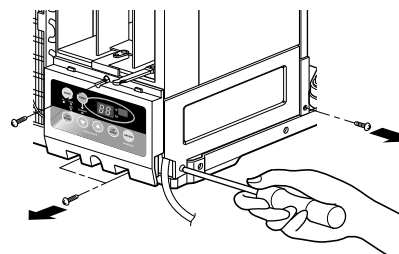

Figure 3
2. Install the drain pan over the corner of the cabinet where you removed the plug with 4 (or 2) screws.(See Fig.3)
3. Connect the drain hose to the outlet located at the bottom of the drain pan. You can purchase the drain hose or tubing locally to satisfy your particular needs. (Drain hose is not supplied). (See Fig.3)
4. Select the most appropriate connection from among the figures to the right (by considering the hole of the unit) to fit drain pan to your own unit. (See Fig.3)
2. Pull the base pan forward so that you can remove the 2 screws which fasten the cover control at the right side. (See Fig. 3)
3. Remove the 3 screws which fasten the control box. (See Fig. 3)
7. Re-install the components by referring to the removal procedure. (See Fig. 3)